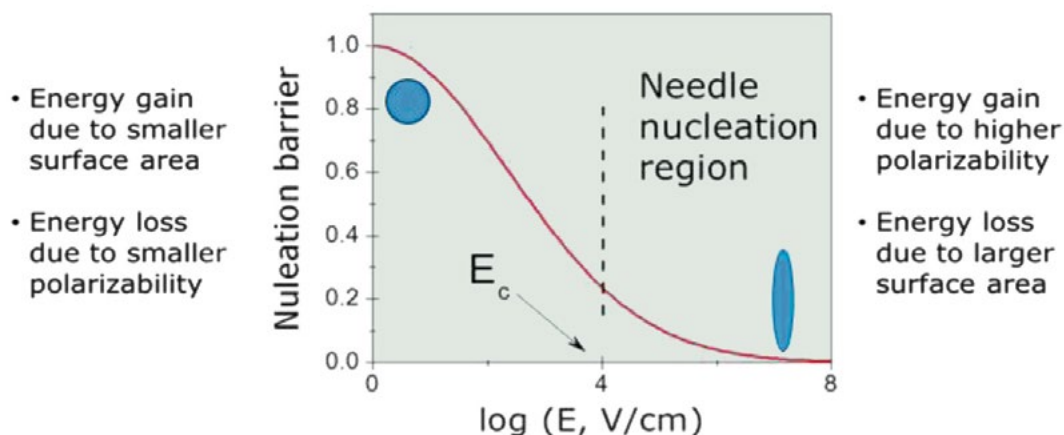

Figure 4: Competition between the surface tension and the electrostatic polarization.
It is worth mentioning that the existence of strongly anisotropic stretched (needle-shaped) metallic particles is due to their strong polarization gain in the external electric field. In turn, that gain is a consequence of their large dipole moments due to considerable dipole length. As a result, long enough particles become energetically favorable in the external field in spite of the fact that their surfaces are much greater than that of an equivalent volume sphere. The needle-shaped metallic particles dominate when the field is greater than a certain critical value as illustrated in Figure 4. This consideration provides a physical mechanism of the very existence of extremely high aspect ratio metal whiskers not collapsing into spherical shapes of equivalent volumes. Their energetically favorable shapes are dictated by the existing electric fields. According to this understanding, whiskers would inevitably collapse into spherical-like shapes in the absence of external electric fields.
5. The latter statement of constant growth rate for whisker lengths $h \gg L$ holds true on average. In reality, a whisker encounters a random distribution of fields in the course of its growth as can be realized from Figure 4. A whisker head passes through multiple regions of various directions and strengths. Correspondingly, the whisker length growth rate fluctuates between low and high values. It can be shown that the most significant electrostatic energy gain is achieved via the increase of whisker length rather than the diameter. Therefore, when the material supply is limited, the energy gain will dictate that whiskers grow in length as much as possible. However, when the length growth is suppressed